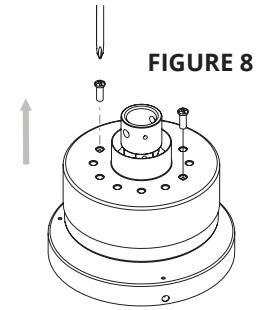

FIGURE 9
2. Attach the fan blades with the blade screws provided (Fig. 9).
3. For two bladed model position spacer between blades as shown (Fig. 9 : Two Blades).